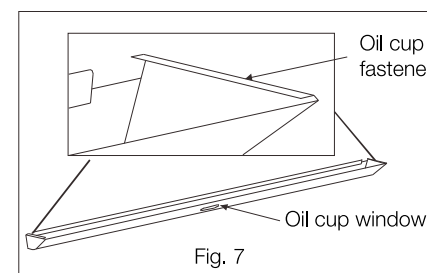
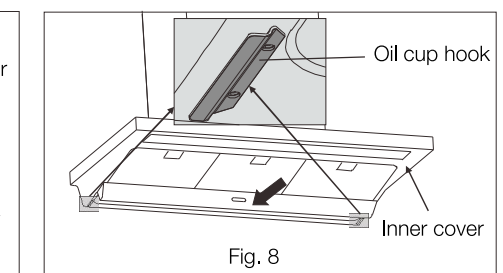

Fig. 7
Fig. 8
2. Installation of oil cup: Face the oil cup window toward you. Align the side fasteners (see Fig. 7) against the oil cup hooks at the bottom of the inner cover. Gently push into position (see Fig. 8).